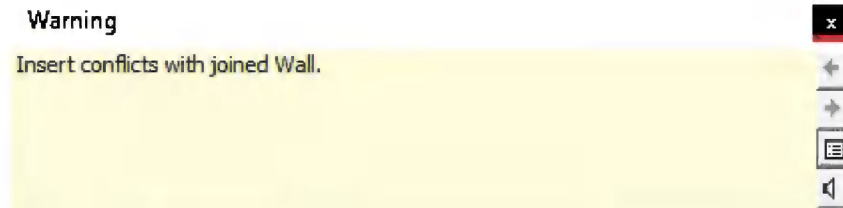

FIGURE 8-2.4 Conflict warning
8. Click the red X (in the upper right) to ignore the wall/window conflict warning (Figure 8-2.4). *If you did not get this warning, skip this step.*